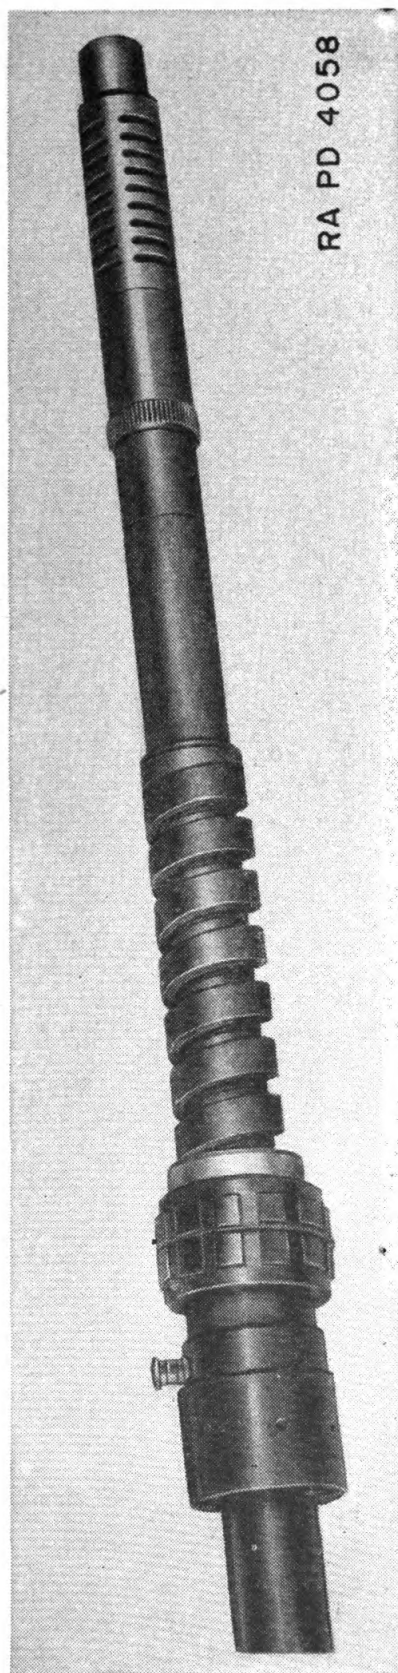

FIGURE 5.—20-mm automatic gun M2, recoil mechanism assembly, close-up.
b. The gun consists of two distinct portions, recoiling and non-recoiling. Recoil is absorbed partly by a muzzle brake and partly by a recoil spring placed between the muzzle brake and the front mount. The recoil spring serves also as a recuperating spring. Its assembled height can be varied by turning the mounting sleeve nut. The muzzle brake is of the conventional type except as to its internal construction, which is fundamentally similar to that of a compensator. A number of ports are cut in the muzzle brake which, being at an angle of 45° to the axis of the bore, deflect the blast gases to the rear. The tendency of the reaction is to force the gun to the front and reduce the total recoil energy (fig. 5).